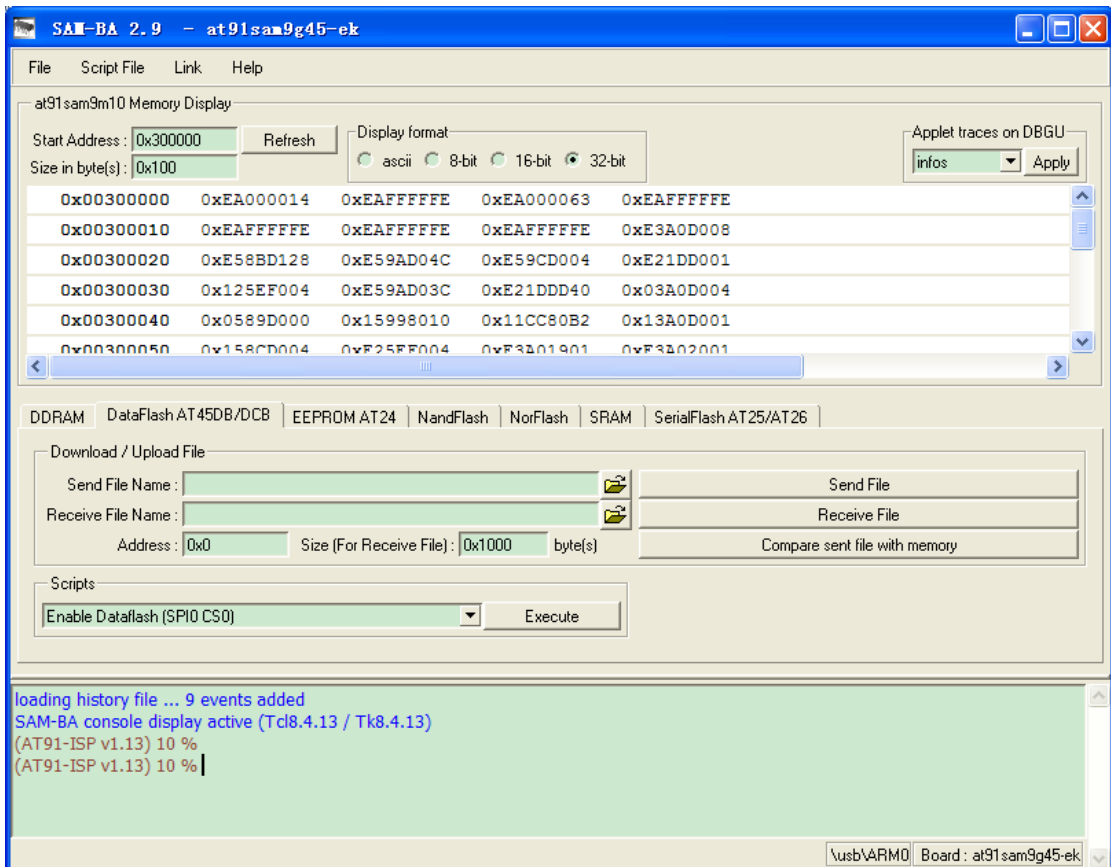

Figure 4-4
(1) Complete chapter 4.5.2, Connect button to enter SAM-BA main interface, refer to figure 4-4: